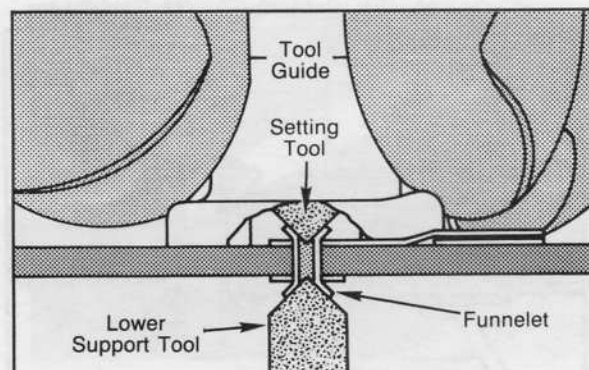

FIGURE 14. SWAGE SETTING OF FUNNELET
STEP 12—Push down firmly on Setting Tool to swage set the Funnelet/Eyelet in place (see Figure 14). (**NOTE:** Make sure the Support Tool is held firmly in place).